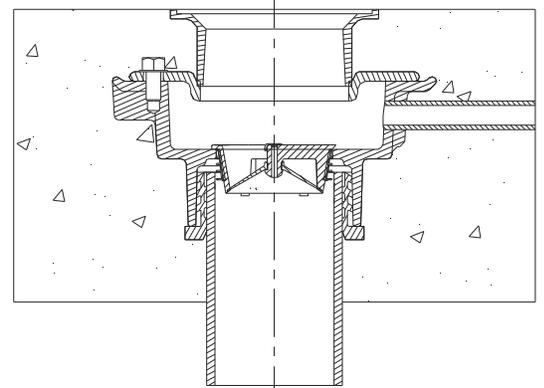

Fig. 3
3. Push Z1072 into bottom of drain body or outlet pipe until the underside of the barrier trap is flush with bottom of drain or top of the pipe. See Fig. 3)